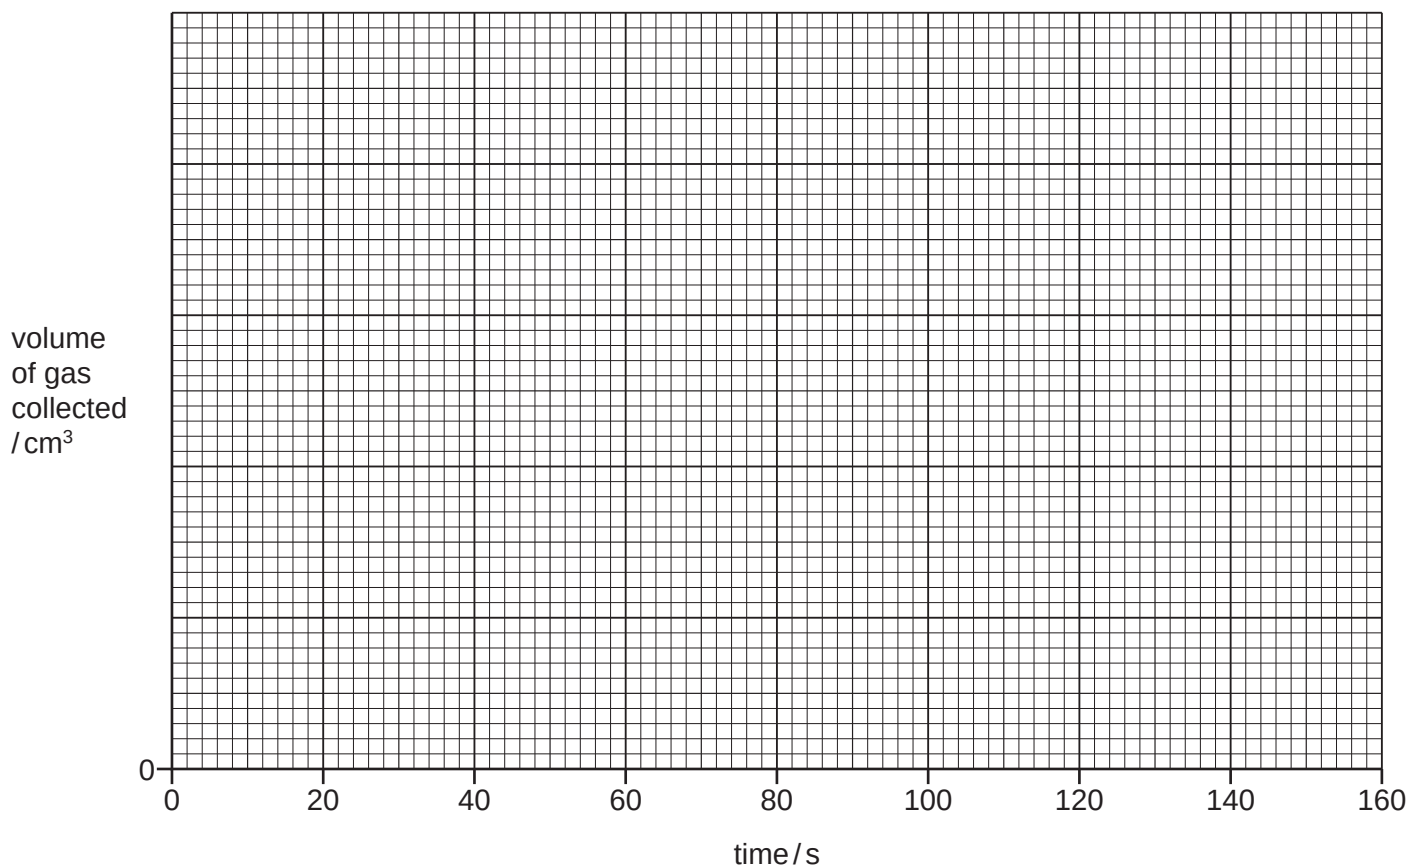

Fig. 1.2
- (b) Complete a suitable scale on the y-axis and plot your results for Experiments 1 and 2 on Fig. 1.2. Draw two lines of best fit. Both lines **must** start at (0,0). Label your lines.
- (c) Deduce the volume of gas collected between 50 seconds and 70 seconds in Experiment 1. Show clearly on Fig. 1.2 how you worked out your answer.
(d) Use Fig. 1.2 to explain which experiment had the faster rate of reaction.
(h) Sketch on Fig. 1.2 the graph you would expect when Experiment 2 is repeated using ethanoic acid with a higher concentration.